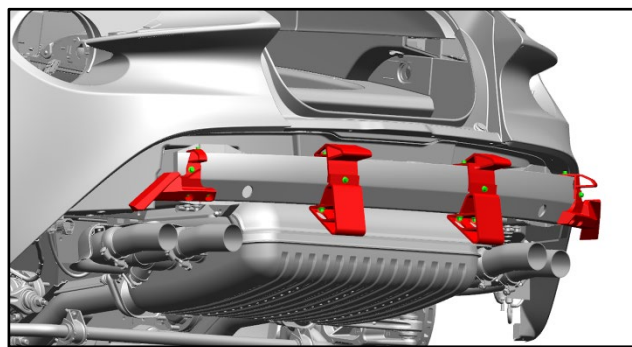
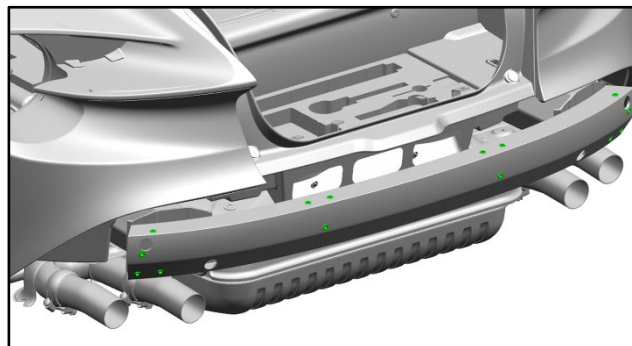

Figure 14
Figure 15
24. Use a torque wrench to make sure the eighteen bolts that support the overrides, are torqued to 9Nm (refer to Figure 14 and Figure 15).
25. Remove the loose bolts (refer to Figure 14 and Figure 15).
27. Remove the applicable overrides (refer to Figure 14).
28. Use a drill with an 8mm drill bit to remove the applicable rivnuts (refer to Figure 15).